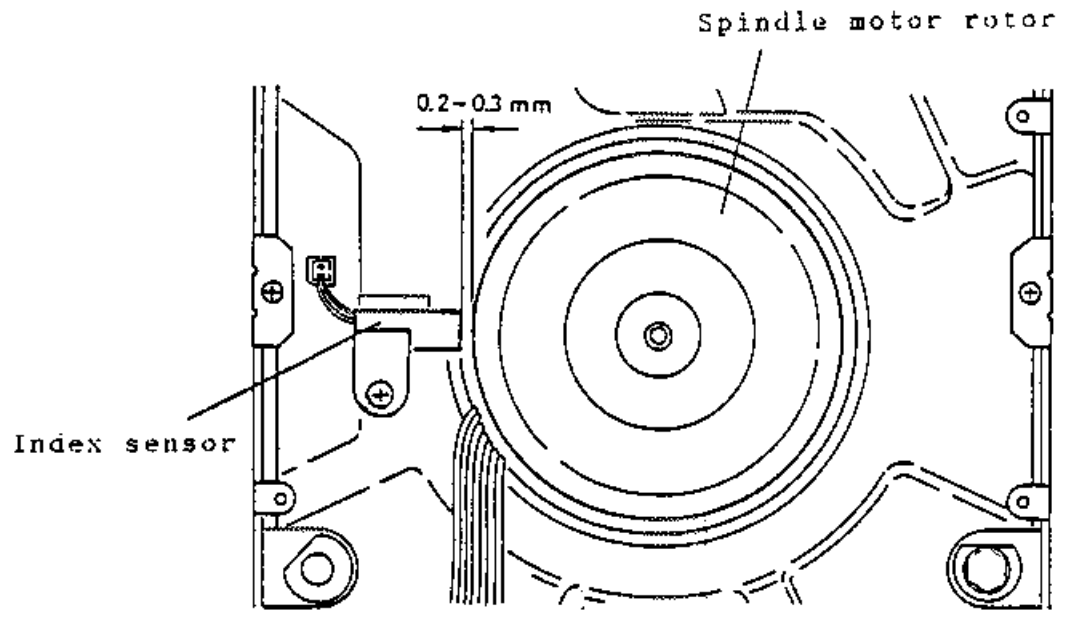

FIGURE 4-5. INDEX SENSOR POSITION
2. Adjust the clearance between the tip of the index sensor and the rotor of the spindle motor to 0.2-0.3 mm, then tighten the screw (See Figure 4.5)